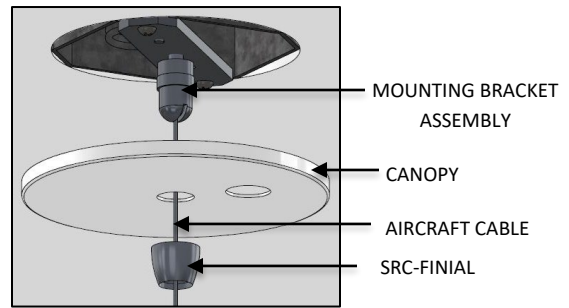

FIG. 15 – CANOPY INSTALLATION
12. Feed the AIRCRAFT CABLE from the MOUNTING BRACKET ASSEMBLY through the center hole of the CANOPY and SRC-FINIAL. Loosely secure CANOPY to the ceiling by threading the SRC-FINIAL to the MOUNTING BRACKET ASSEMBLY as shown below in FIG. 15.